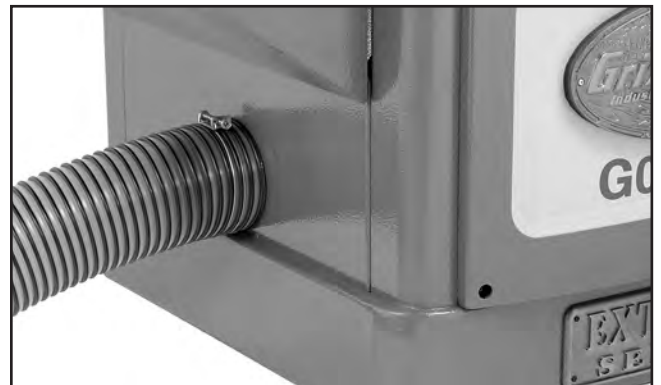

Figure 34. Dust hose attached to dust port.
1. Fit the 4" dust hose over the dust port, as shown in **Figure 34**, and secure in place with a hose clamp.